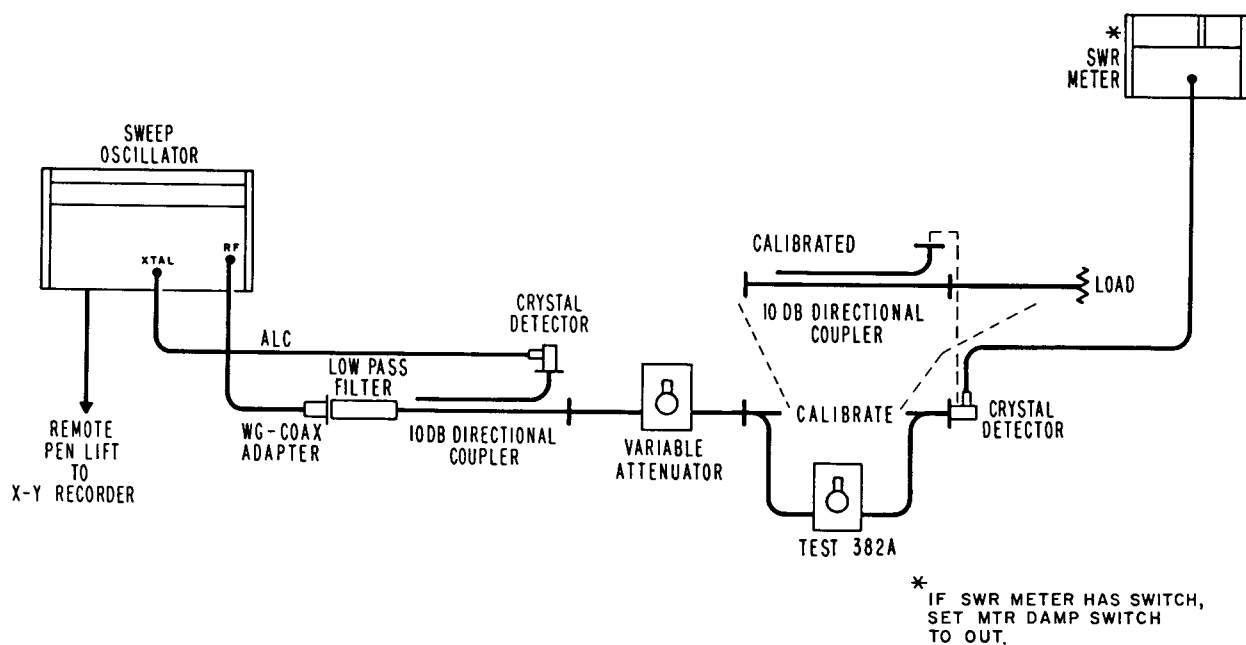

Figure 6 Attenuator Calibration
1. Connect the instruments as shown in Figure 6.
2. Remove the 382A under test and reconnect the system (marked "CALIBRATE" in Figure 6).
6. Connect input and auxiliary output of directional coupler at the point marked "CALIBRATE" in Figure 6 on page 15 (terminate main line with matched load).